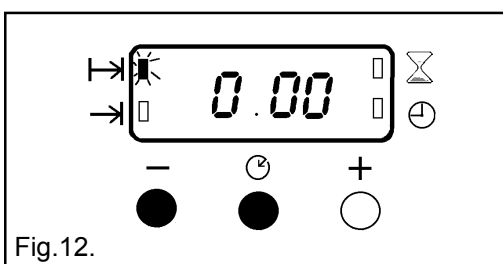

Fig.12.
- i) To cancel an automatic programme press the Selector Control button until the 'Cook Time' indicator neon (⌂) neon flashes. Press the decrease control (-) until the display reads 0.00 as Fig. 12.